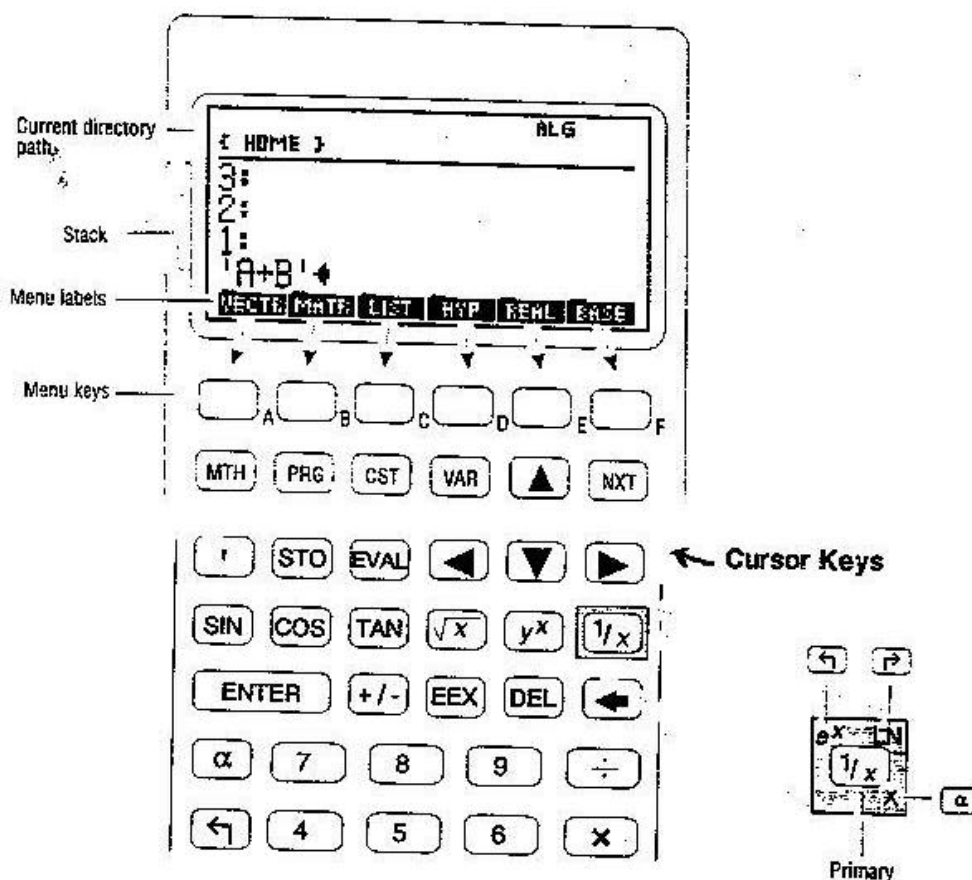

Figure 1. Keyboard and Display
- The **Alphabetical keyboard** is activated by pressing the [α] key. Alpha keys are labelled in white with the letter represented, shown at the bottom right of the primary key, see Figure 1.
The display and keyboard is described in Figure 1.
The cursor keys are shown in Figure 1.